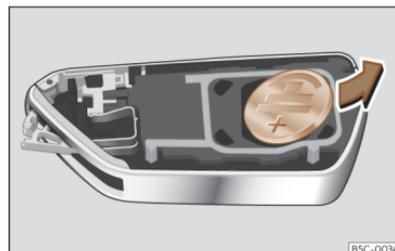

Fig. 81 Vehicle key: removing the battery.
- Remove the battery from the compartment with a suitable fine object >>> Fig. 81.
- Insert the new battery and press it into the battery compartment >>> ①.